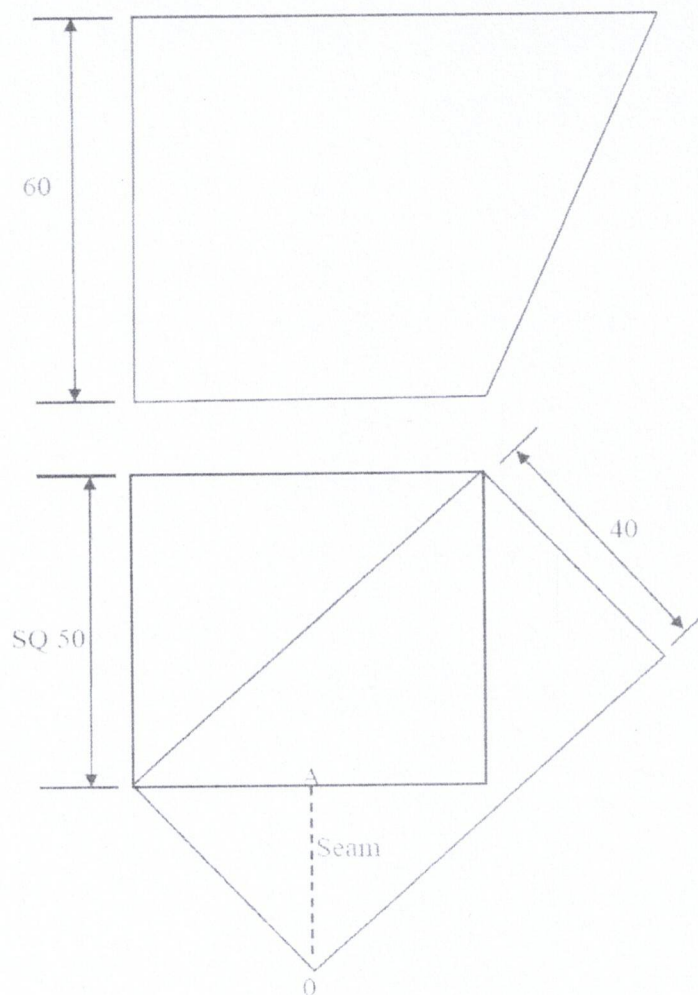

Fig Q5
Figure Q5 shows two (2) views of a twisted square to rectangle transformer.